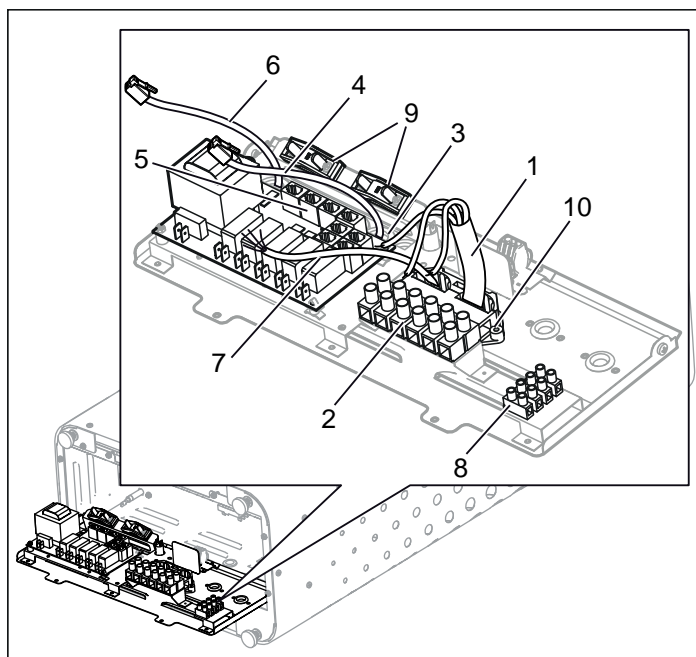
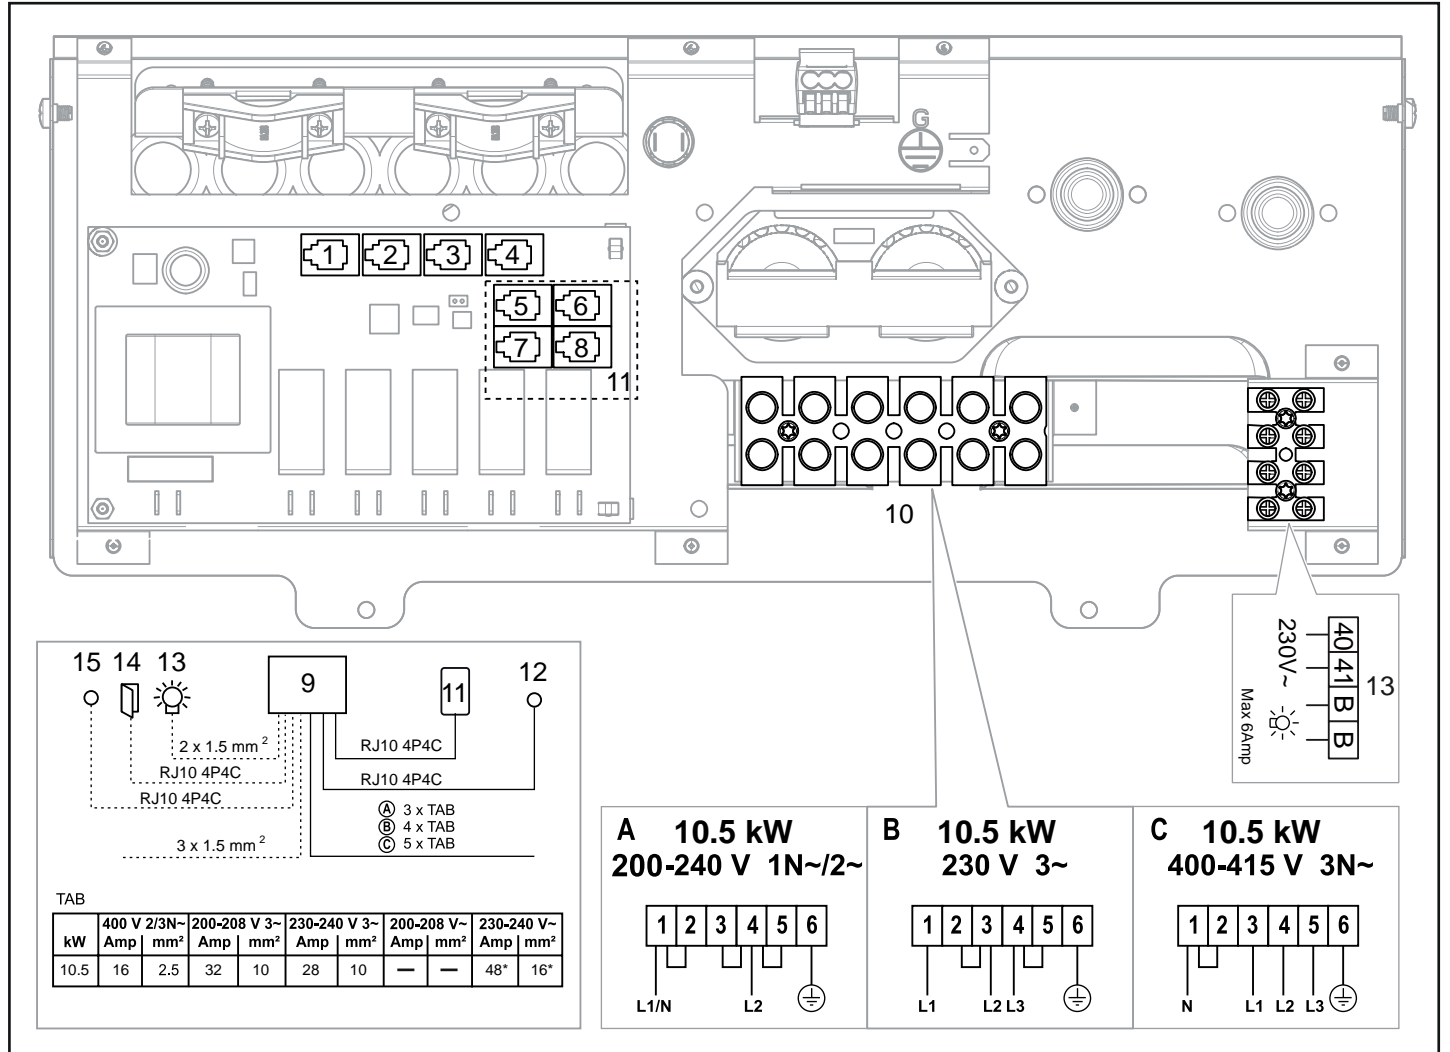

Figure 8: Circuit board
Figure 11: Wiring diagram
3. Connect the electrical cable (1) to the terminal (2) (see Figure 8) according to the wiring diagram (see the Connection/wiring diagram section, page 11).
4. Run the cables for the control panel and the temperature sensor through the cable grommets (3). Connect the control panel cable (4) to one of the four RS485 contacts (positions 5-8) (see Figure 8) according to the wiring diagram (see the Connection/wiring diagram section).
5. Connect the sensor cable (6) to the NTC contact on the circuit board (position 1) (5) (see the Connection/wiring diagram section) according to the wiring diagram (see the Connection/wiring diagram section, page 11).
6. Connect the light cable (if relevant) (7), see Figure 8 page 9, to the terminal (8) according to the wiring diagram Figure 11, page 11.
Contact Tylö Customer Service before connecting to voltages or numbers of phases that are not listed in the wiring diagram Figure 11, page 11.